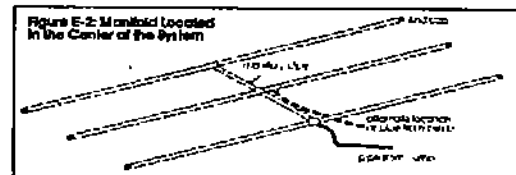

Figure E-2: Manifold Located in the Center of the System
9. If perforated lateral system is attached to manifold pipe near the center, like Figure E-2, perforated lateral length (3) and number of perforations per lateral (5) will be approximately one half of that in step 8. Using these values, select minimum diameter for perforated lateral = 2 inches.